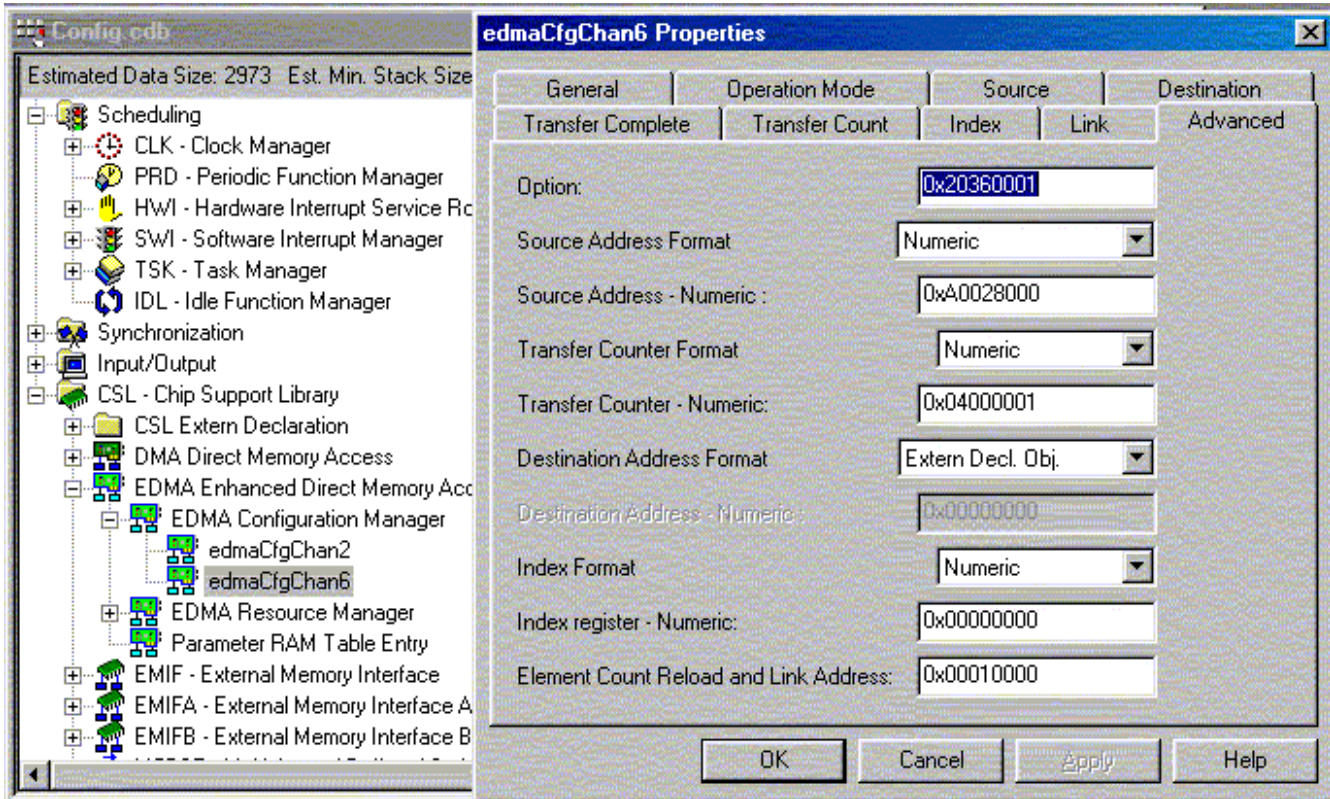

Figure 20. EDMA Chan6 Advanced Tab Options
17. In the Advanced tab, set the options shown in Figure 20. Read 1024 samples from the A/D converter for which the Read signal is mapped to 0xA0028000. When all 1024 samples have been stored, interrupt the DSP.